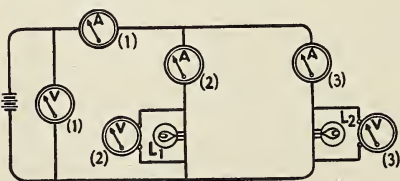

Fig. 227. Diagram of divided circuit used for measuring potential difference in each branch.
Parallel circuits. To understand the flow of current in parallel circuits, let us examine a parallel circuit of two lamps, as shown in Figure 227. Ammeter (1) registers the current in the complete